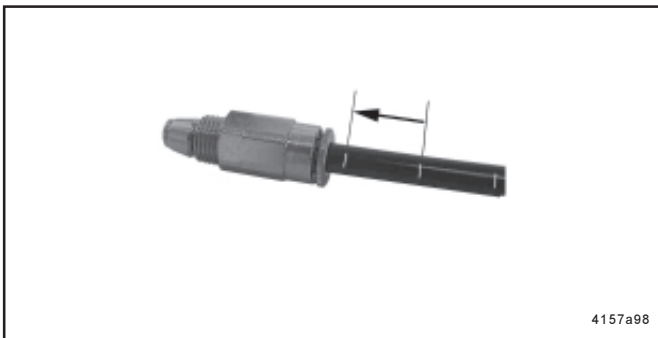

Fig. 9 - Feed line insert into the fitting up to the next white mark
- * Cut the feed line off at one of the white lines before it is mounted (see Fig. 9).